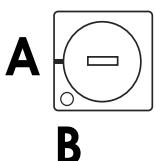

Figure 1
1. To open dispenser while keeping it locked, insert key at position A. (See Figure 1)
1. Insert key at position A. (See Figure 1)